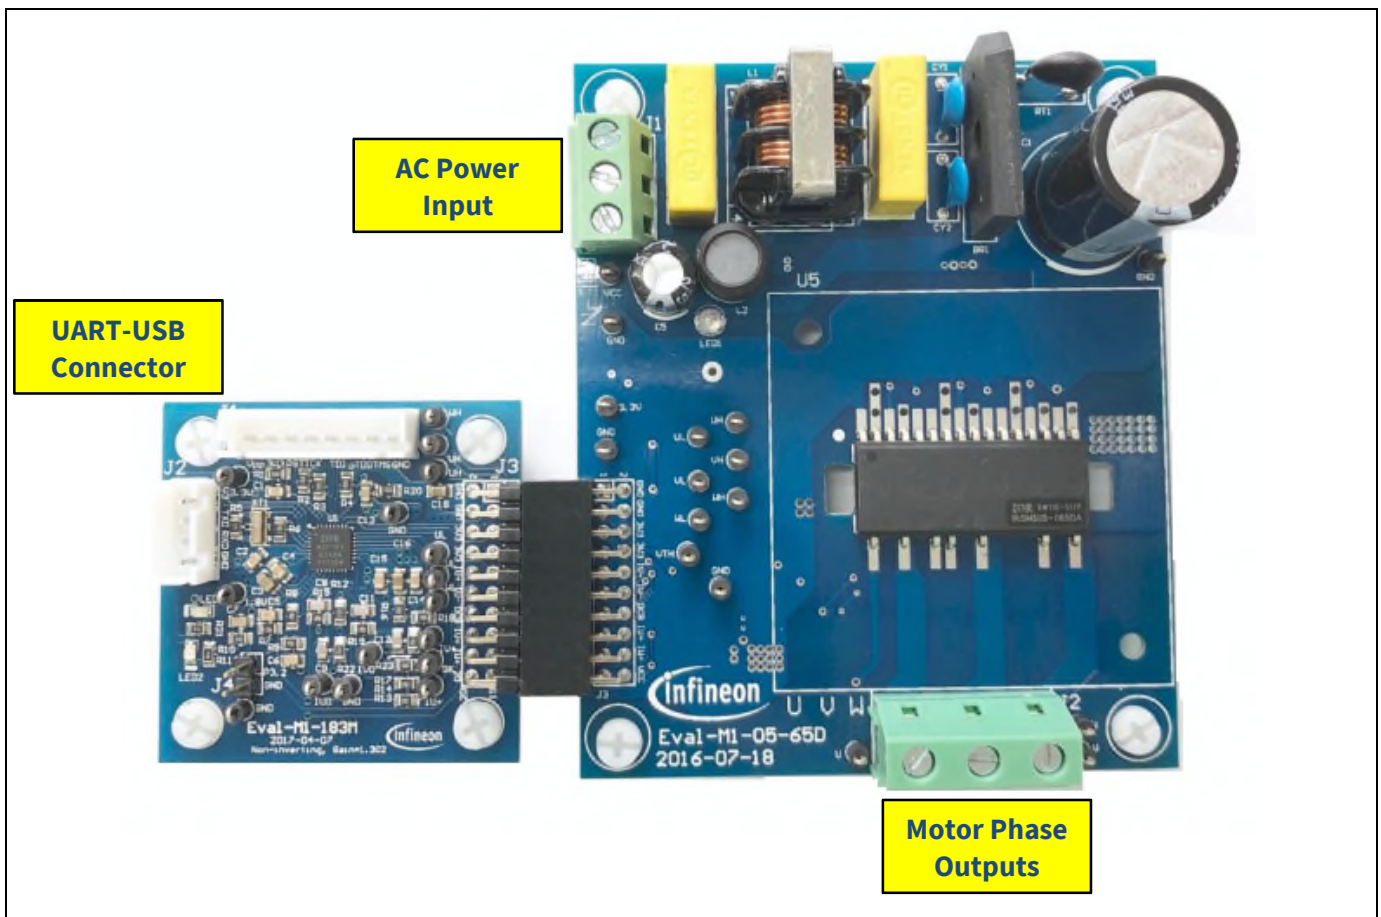

Figure 4 System connection example using EVAL-M1-183M and EVAL-M1-05-65D
4. Connect EVAL-M1-183M's M1 20-pin interface connector (J3) to power board (For example EVAL-M1-05-65D, see Figure 4).